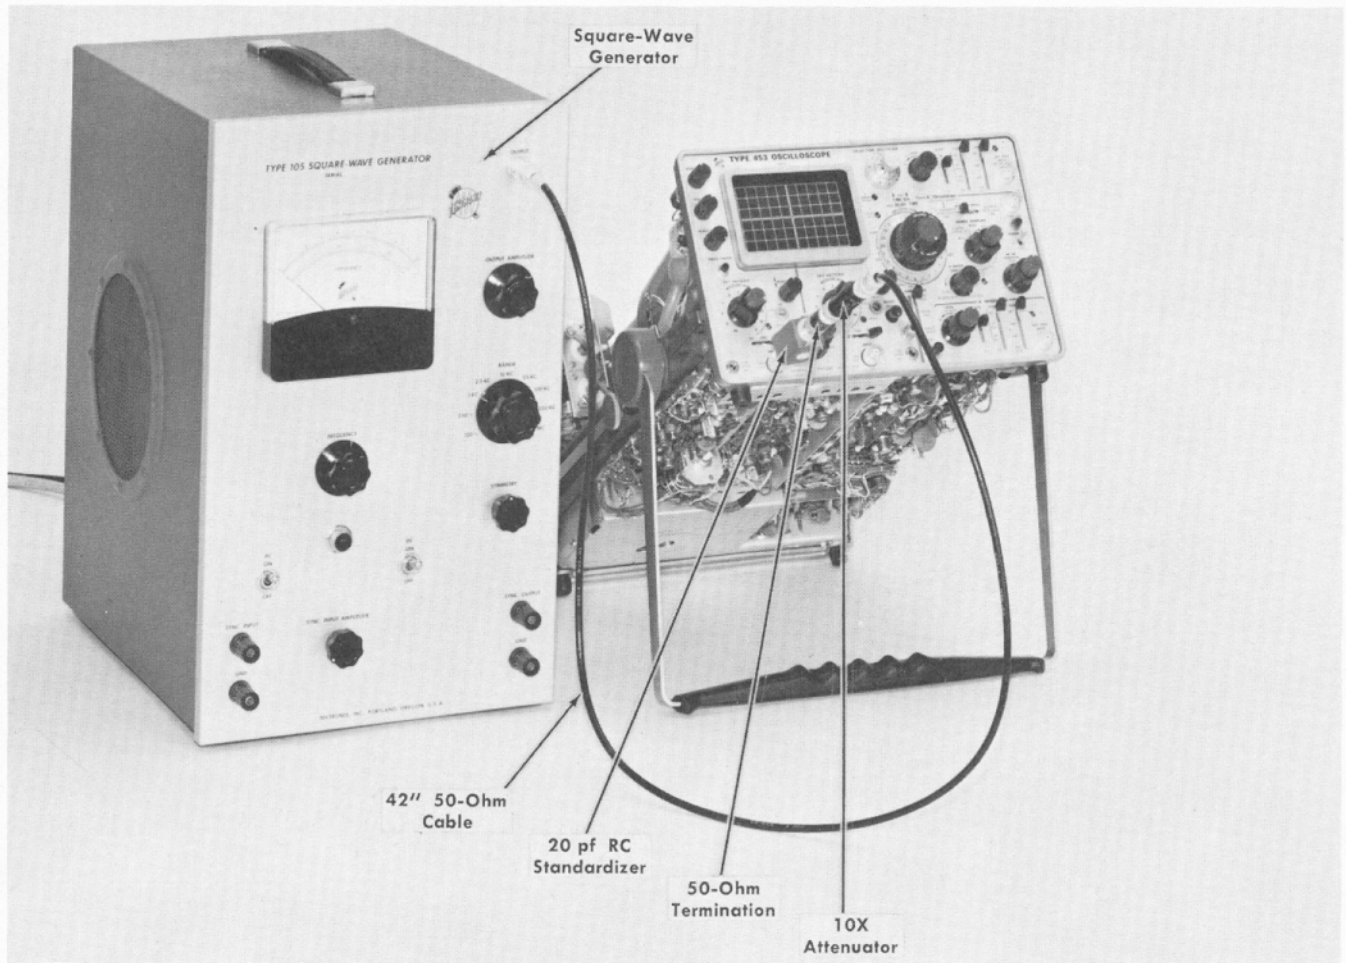

Fig. 6-24. Initial test equipment setup for steps 21 and 22.
a. Test equipment setup is shown in Fig. 6-24.